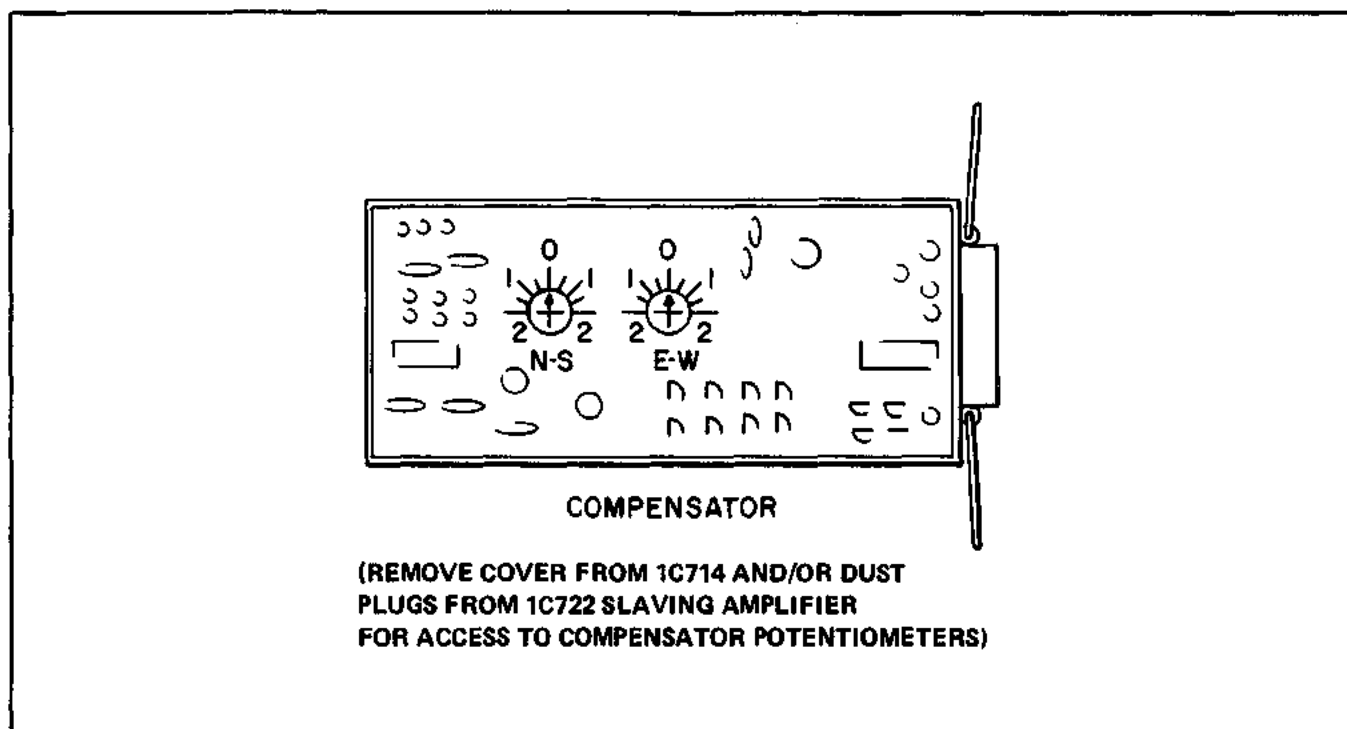

Figure 5-10. Slaving Amplifier, N-S/E-W Corrector Adjustment Potentiometers
20. Adjust the North-South Corrector Adjustment (refer to Figure 5-10) by rotating the potentiometer (clockwise for minus or counterclockwise for plus deviations) in the correct direction for one half the difference between North and South deviations. Record the new deviation for North and South on the Final Deviation Graph.
22. Adjust the East-West Corrector Adjustment (refer to Figure 5-10) by rotating the potentiometer (clockwise for minus or counterclockwise for plus deviations) in the correct direction for one half the difference between East and West deviations. Record the new deviation for East and West on the Final Deviation Graph.